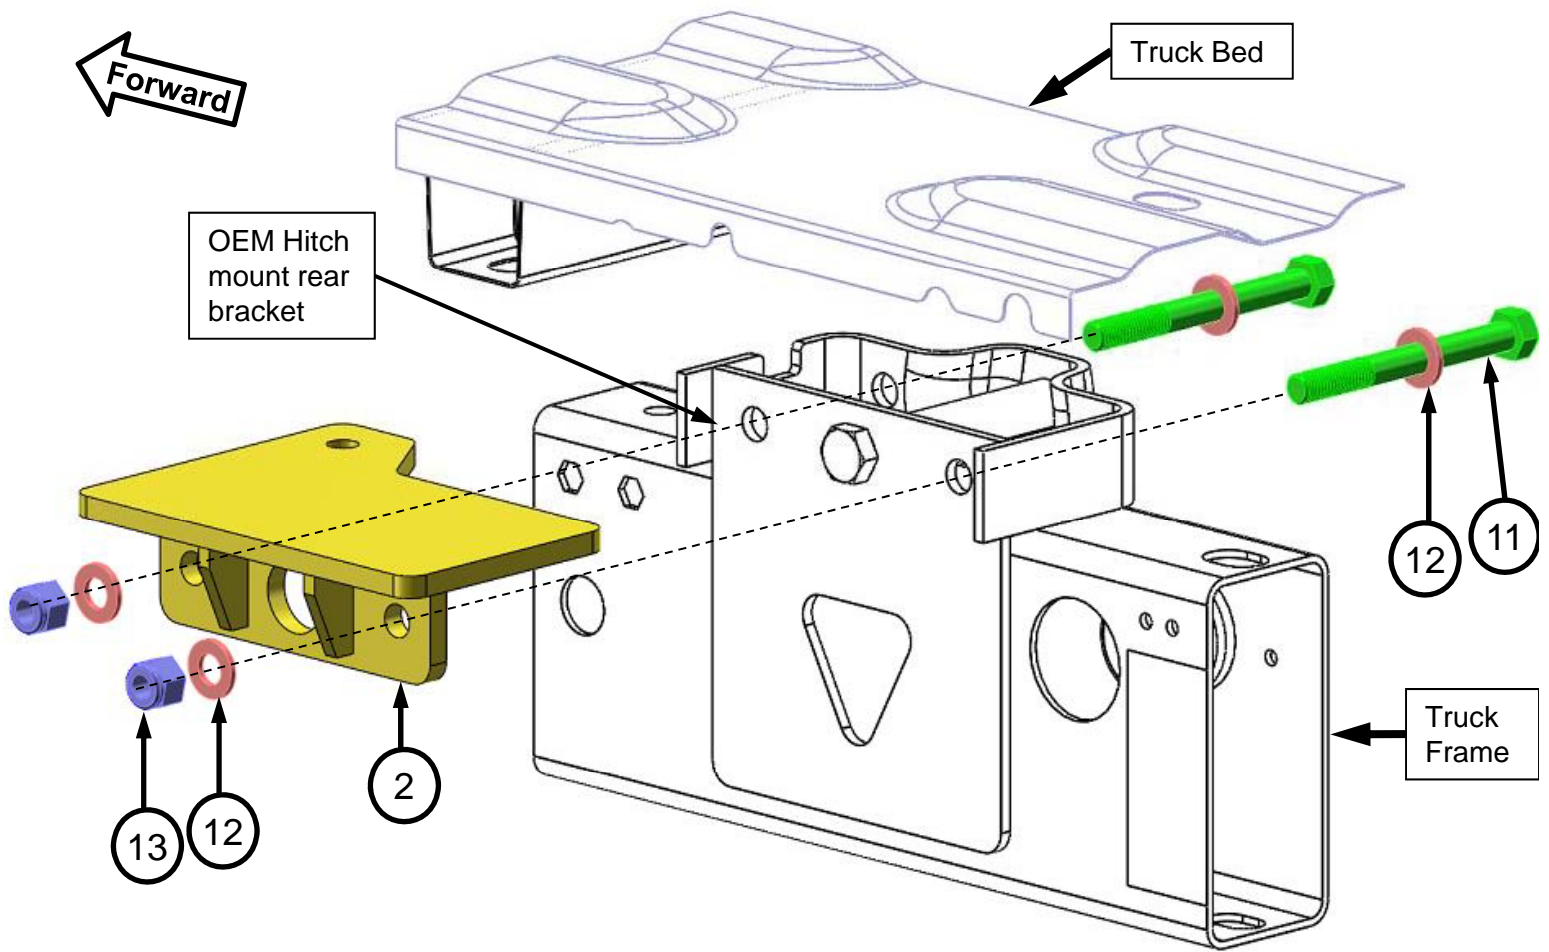

Figure 13 Driver side Rear shown
23.Repeat steps 22 to install the passenger side rear bracket (item #4) as shown in Figure 13.